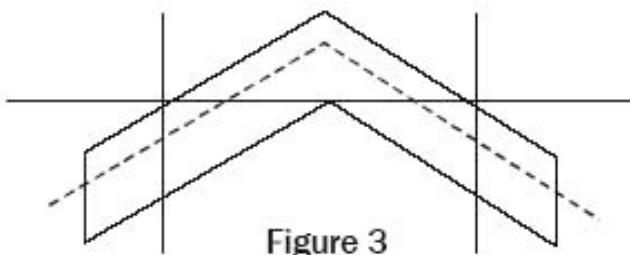

Figure 3
**Figure 3** shows a wing with sweep, and once again, figuring the CG is a simple matter of finding the 25-33% point at the root and tip, then finding the point at half span and drawing a line between the two. Notice that the CG is well ahead of the tip leading edge and with more sweep, can actually be behind the root trailing edge. Once again, it is important that you know where on the wing you are going to balance the airplane.
Interestingly enough, it is just as simple as any of the other types of wings. You find the MAC of the constant chord section and the MAC of the swept and tapered section. Then you find the mean point on the wing. The only thing that could get you in trouble here is forgetting to include the part of the wing covered by the fuselage. The sweep angle in Figures 3 and 4 is exactly the same, but you will notice the CG line is further forward on the wing with a constant chord section. This is the effect of the constant chord area reducing the total area of the swept section.